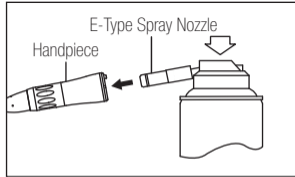

Fig. 6
- 3) Insert the Spray Nozzle in rear of the handpiece. Hold the handpiece and spray for approximately 2-3 seconds. Apply lubricant until it expels from the handpiece head for at least 2 seconds. (Fig.6)